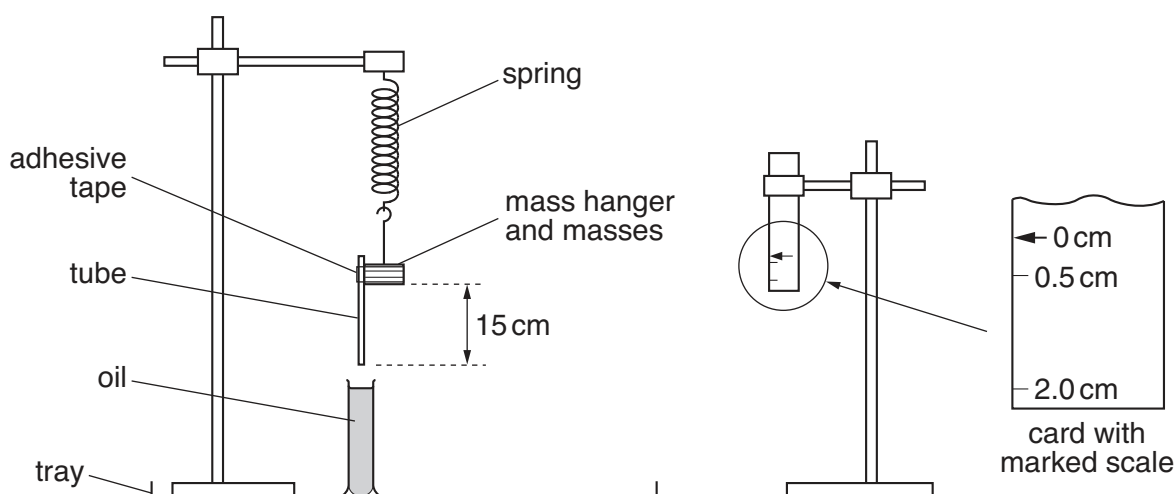

Fig. 2.1
Strip of stiff card about $2 \text{ cm} \times 10 \text{ cm}$, marked as shown in Fig. 2.1.
- The tube should be rigidly fixed to the masses and hanger with adhesive tape and the apparatus assembled as shown in Fig. 2.1.